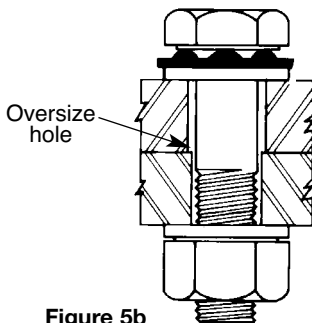

Figure 5b
*With a short-slotted or oversized hole under the bolt head add a hardened flat washer between the DTI and the hole, and if the bolt is also an A490 larger than 1" the hardened washers must be at least 5/16" thick. For a long-slotted hole, an external cover plate of sufficient size to completely cover the slot should be provided. (Figure 5b) See Table 6.1 of the RCSC Specification for detailed washer requirements.*